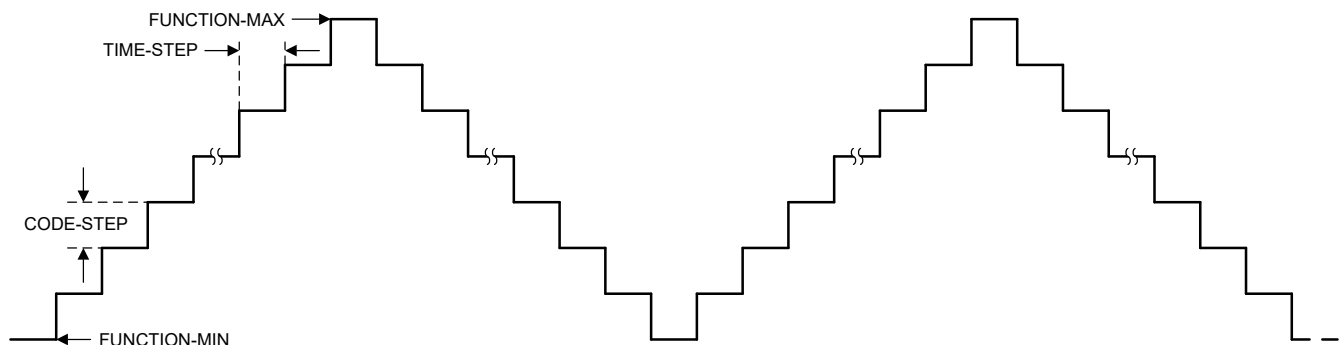

図 7-4. Triangle Waveform
図 7-4 shows that the triangular waveform uses the FUNCTION-MIN and FUNCTION-MAX registers for minimum and maximum levels, respectively. 式 4 calculates the frequency of the waveform depending on the minimum and maximum levels, and the CODE-STEP and TIME-STEP settings. An external resistor-capacitor (RC) load with a time-constant greater than the TIME-STEP settings can be dominant over the internal frequency calculation. The CODE-STEP and TIME-STEP settings are available in the FUNCTION-CONFIG register. Write 0b000 to the FUNCTION-SELECT bit field in the FUNCTION-CONFIG register to select the triangular waveform.